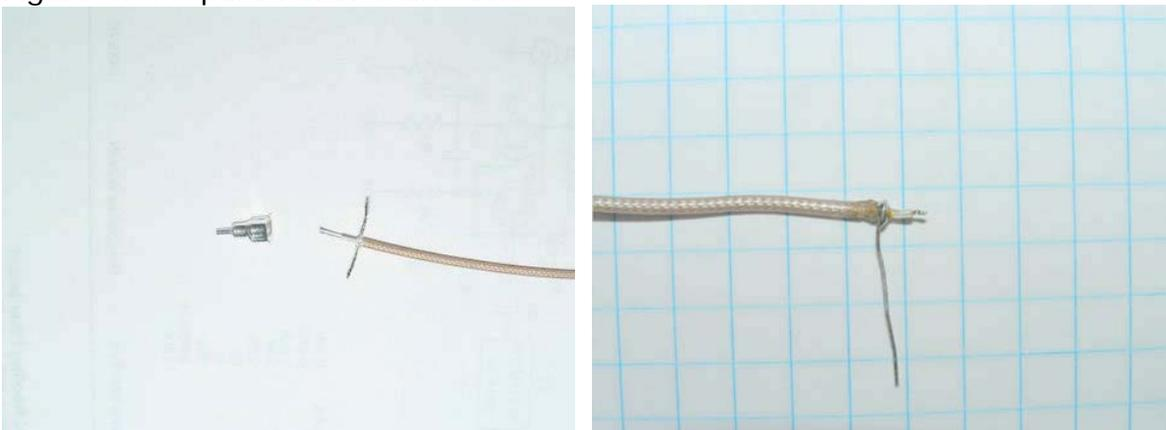

Figure 5. Mod wrapped in protective sheet and inserted into the opening in the radio.
3. Plug the two coax cables into the mod connectors using care to get them into the proper jacks. See Figure 5. Seat the connectors firmly into the jacks.